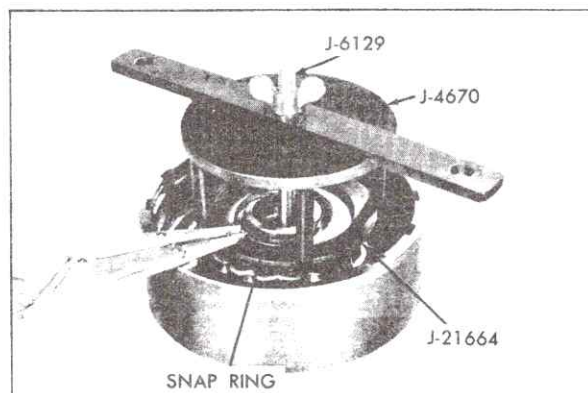

Fig. 7-182 Removing and Installing Direct Clutch Housing Snap Ring
arbor press, and Adapter, J-21664, Fig. 7-182, compress spring retainer and remove snap ring with Snap Ring Pliers, J-8059 or J-5586.
- f. Using Clutch Spring Compressor, J-4670, Rear Clutch Spring Compressor, J-6129, or an arbor press, and Adapter, J-21664, Fig. 7-182, compress spring retainer, being careful that retainer does not get caught in snap ring groove, and install snap ring with Snap Ring Pliers, J-8059 or J-5586. Remove tools.